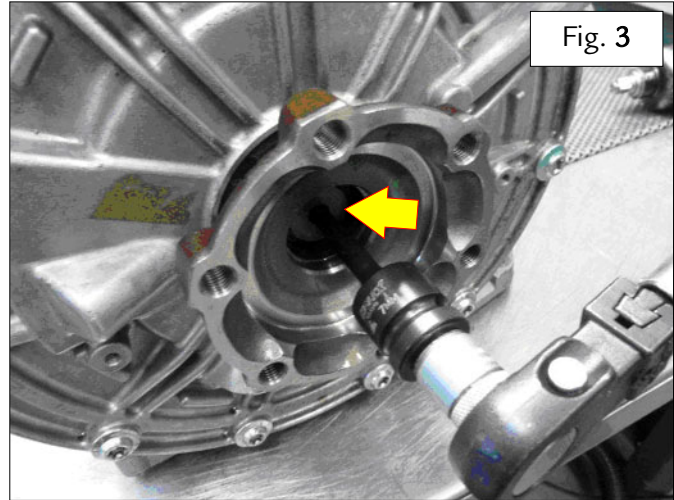

Fig. 3
- Using a 7 mm hexagonal socket wrench bit, undo the indicated screw on the right hand differential flange – Fig. 3.